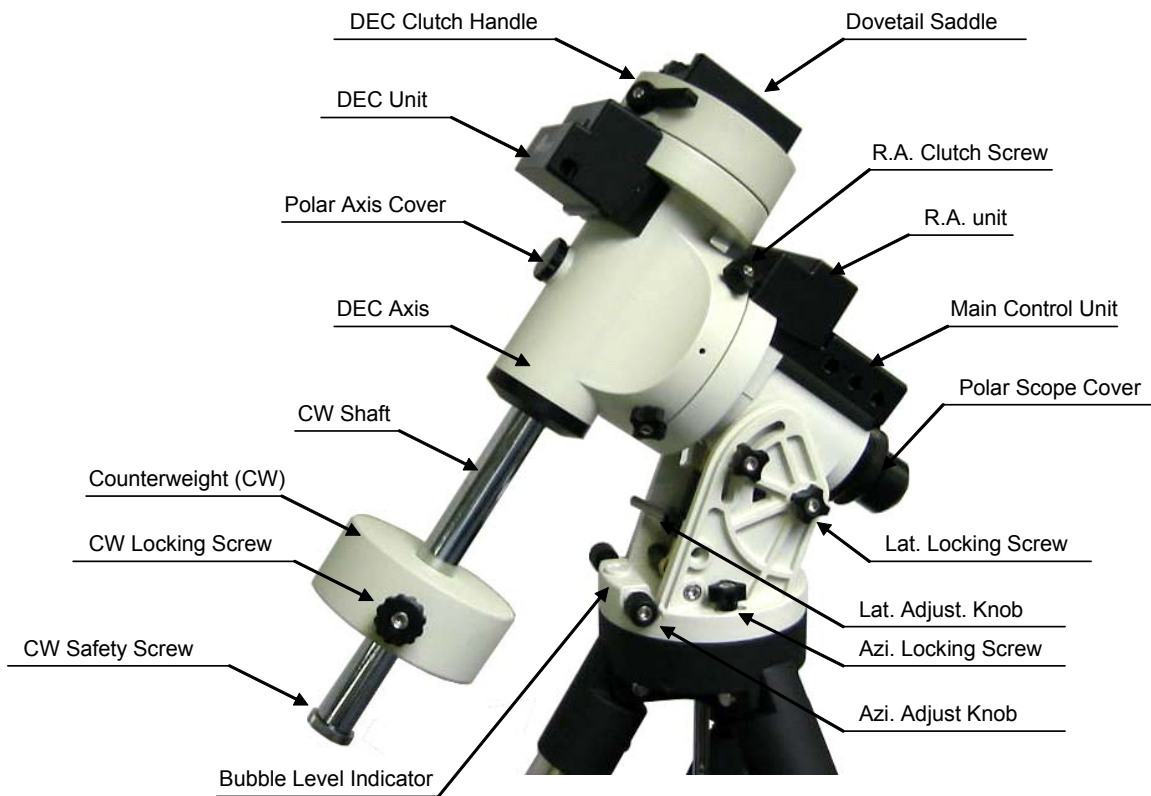
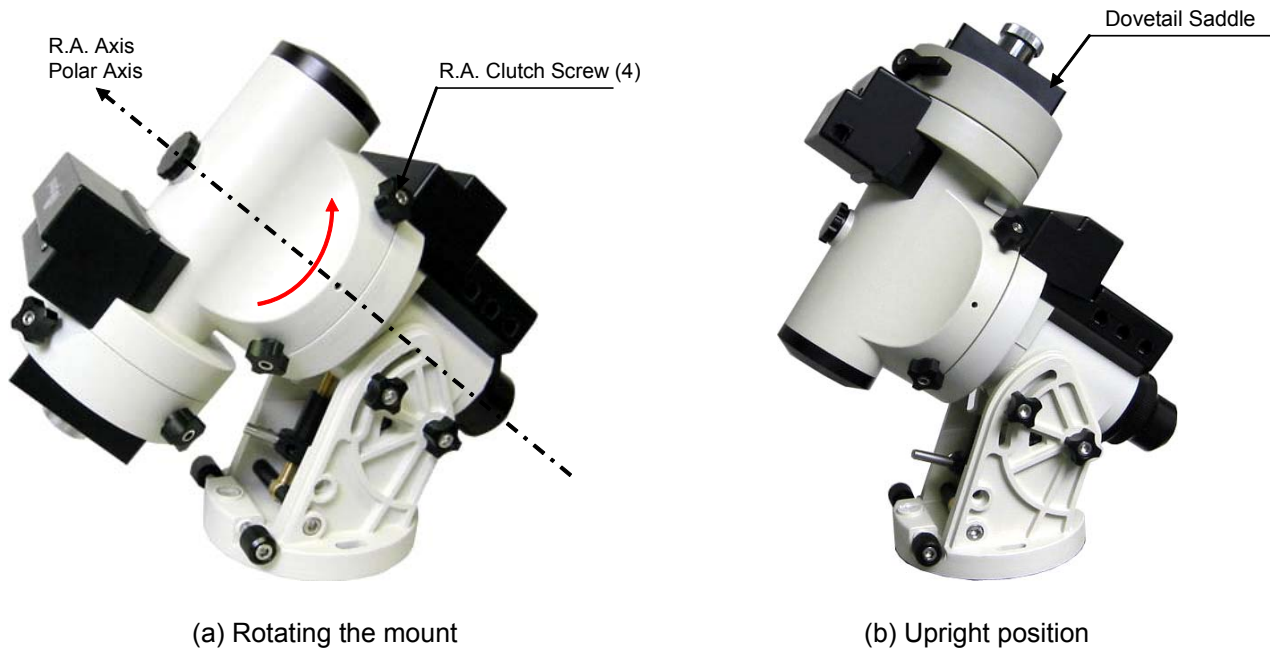

Figure 2. iEQ45™ mount assembly terms (mount and tripod)
Figure 5
Carefully remove the mount from the shipping box and familiarize yourself with the components shown in Figure 2. Unlock the four (4) R.A. Clutch Screws and rotate the mount 180° around the R.A. axis to move the dovetail saddle face topside to the highest vertical position as shown in Figure 5. Tighten the R.A. Clutch Screws.